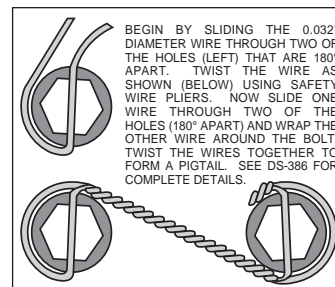
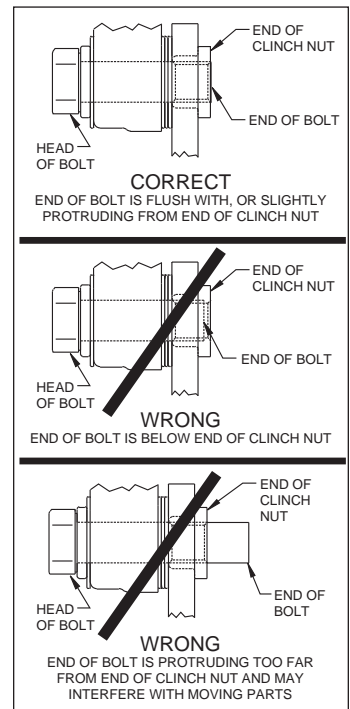

Figure 3. Safety Wire Diagram
Figure 4. Clinch Nut Engagement Diagram
**Assembly Instructions** (numbers in parenthesis refer to the parts list and Figure 1 on the preceding pages): **CAUTION:** All mounting bolts must fully engage clinch nuts. Be sure to check that all bolts are either flush or protruding through flanged side of clinch nut after shimming, Figure 4.
- Pack the large inner bearing cone (8) with high temperature disc brake bearing grease (available from your local auto parts store) and install into the backside of the hub (7), Photo 3.
- Install the grease seal (9) by pressing into the backside of the hub (7), flush with the end of the hub, Photo 3.
- Orient the rotor (11) and the rotor adapter (10) as shown in Figure 1 and Photo 4. Attach the rotor to the adapter using bolts (12). Using an alternating sequence, apply red *Loctite*® 271 to the threads, and torque to 180 in-lb. Safety wire bolts (12) using standard 0.032 inch diameter stainless steel safety wire as shown in Figure 3. Refer to Wilwood's data sheet DS-386 (available at [www.wilwood.com/pdf/ds386.pdf](http://www.wilwood.com/pdf/ds386.pdf)) for complete safety wire installation instructions.
- Mount the adapter/rotor assembly (10/11) to the hub (7) using bolts (13), as shown in Figure 1 and Photo 5. Using an alternating sequence, apply red *Loctite*® 271 to the threads, and torque to 55 ft-lb. Safety wire bolts, as shown in Figure 3.
- Pack the small outer bearing cone (14) with high temperature disc brake bearing grease and install into hub (7). Slide the hub/rotor assembly onto the spindle. Secure using spindle washer (15) and OEM spindle nut, Photo 6. Adjust bearings by tightening the wheel bearing nut to 60 **in-lbs.** while turning the hub/rotor assembly (10/11). Install saved OEM nut lock (if any) on the wheel bearing nut with one pair of slots in-line with (covering) the cotter pin hole. Back off the adjusting nut lock assembly (or castle nut) one slot and install a new cotter pin (not supplied). **The resulting adjustment should be zero (no pre-load to 0.003 inch end play).**
- Screw dust cap (17) into hub (7), Photo 7. Friction created by the o-ring (16) on the dust cap keeps it from unscrewing. **NOTE:** *The O.D. of the existing OEM spindle washer may be larger than the I.D. of the dust cap not allowing it to seat against the hub face. Therefore, use the spindle washer (15) supplied with the kit instead of the OEM washer.*
- NOTE:** *Please reference the caution statement at the beginning of the assembly instructions.* Mount the caliper (18) onto the caliper mounting bracket (1) using bolts (21) and washers (20), as shown in Figure 1. Initially place two .032" thick shims (19) on each bolt between the caliper and the bracket, Photo 8. Temporarily tighten the mounting bolts and view the rotor (11) through the top opening of the caliper. The rotor should be centered in the caliper, Photo 9. If not, adjust by adding or subtracting shims between the bracket and the caliper. Always use the same amount of shims on each of the two mounting bolts. **NOTE:** *The end of each bolt must be flush with or slightly protruding from the head of the clinch nut, as shown in Figure 4.* If necessary place spare shims between washer (20) and caliper mounting ear to achieve the proper clinch nut engagement. Once the caliper alignment and clinch nut engagement are correct, remove the bolts one at a time, apply red *Loctite*® 271 to bolt threads, and torque to 40 ft-lb. Safety wire the bolts as shown in Figure 3.
- Install the disc brake pads (22) into the caliper, with the friction material facing the rotor (11), and secure in place using cotter pin (23), Photo 10.